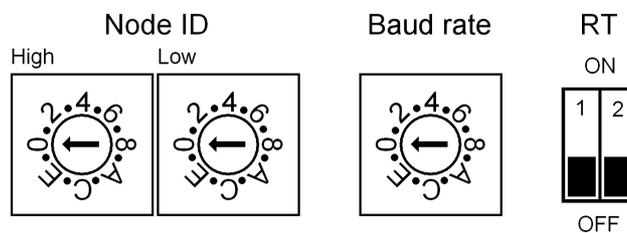

Figure 4: Dip-Switches
4.4 Dip-Switches (Figure 4)
4.4.1 Setting the node address: Node ID (Figure 4)
4.4.2 Setting data transmission rate: Baud rate and Parity bit (Figure 4)
4.4.3 RT bus termination (Figure 4)
To configure the serial port of the RD4 device refer to section "4.4.2 Setting data transmission rate: Baud rate and Parity bit (Figure 4)" on page 22.
Then set the node address of the device the personal computer is connected to through the **Slave settings** box (default value for all RD4-Modbus positioning units = 1). To set the node address of the RD4 device refer to section "4.4.1 Setting the node address: Node ID (Figure 4)" on page 21.